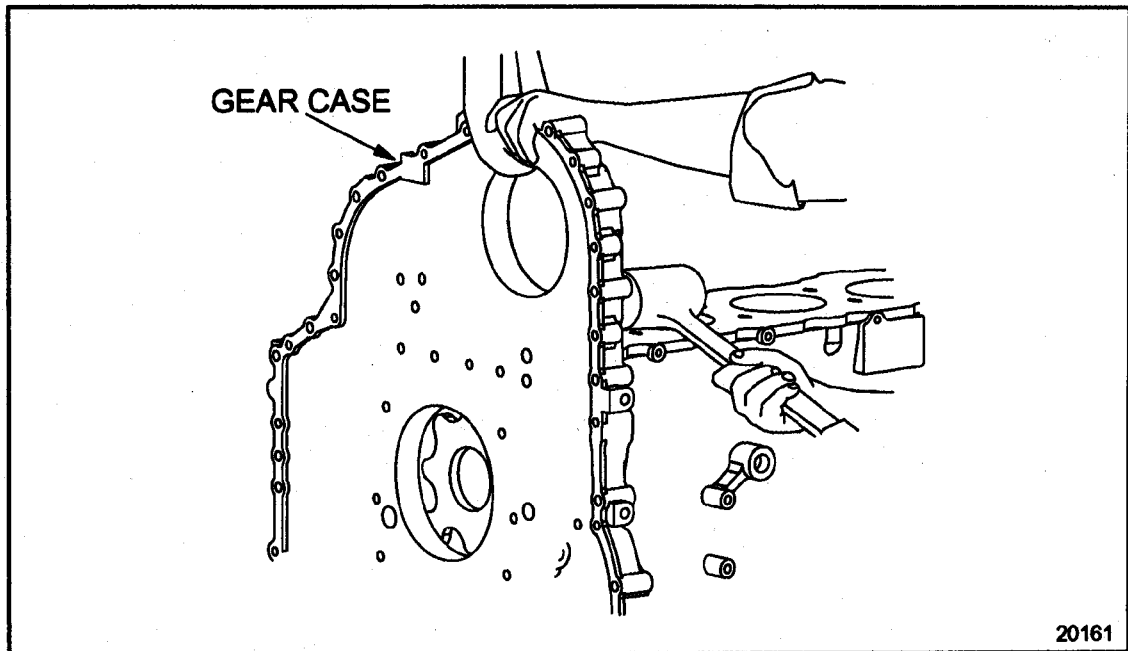

Figure 1-193 Gear Case Removal
16. Using a leather or cloth-wrapped strap, support the gear case. See Figure 1-193.